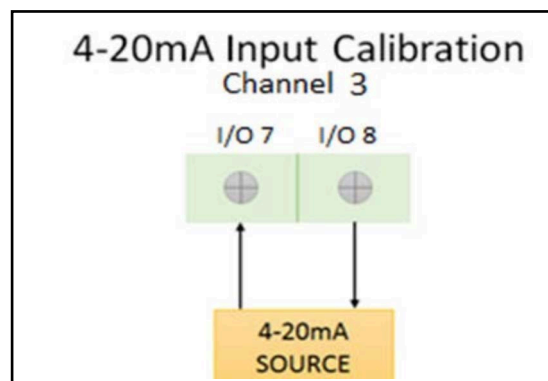

Figure 40: Option I/O Analog Input connections
1. Connect the Analog Input as in Figure 40.